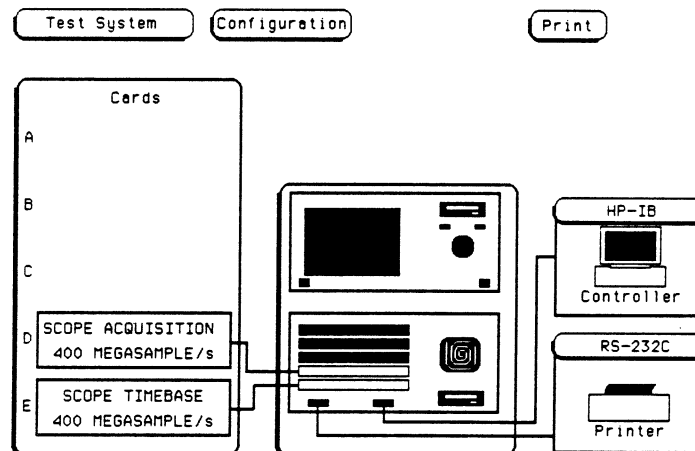

Figure 6-6. Test System Screen
- d. From test system screen in figure 6-6, touch **Test System**, then touch **Oscilloscope**. (If multiple oscilloscope modules, select the one to be tested)